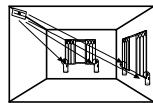

Fig. 5
- **Corner Mounted** (choose corner opposite glass to be protected, see fig. 5)